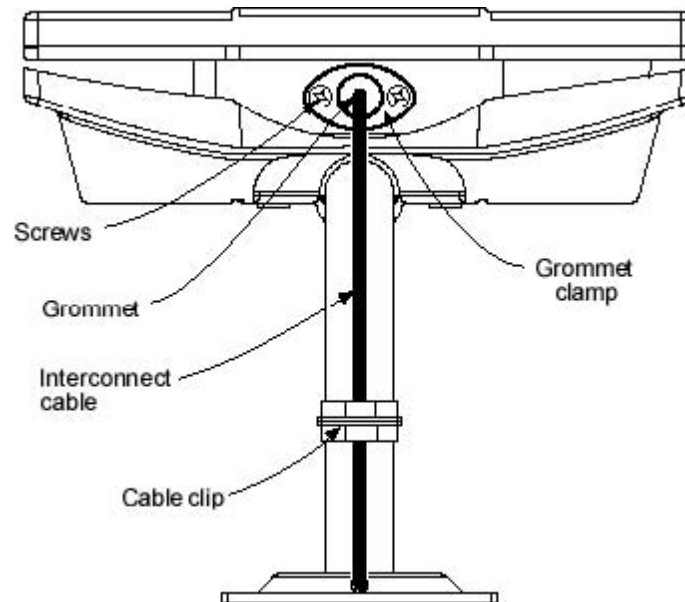

Figure 6-4 Interconnect Cable Installation to Outdoor CPE - Bottom View
- 12) Secure the interconnect cable to the mounting pole with the cable clip as shown in Figure 6-4.